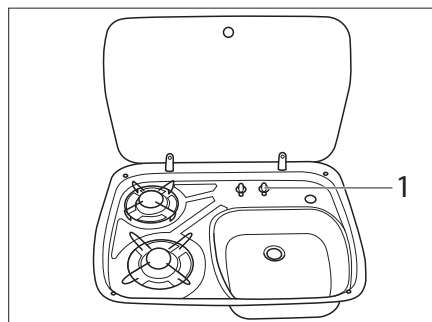

Fig. 66 Operating controls for gas cooker
- Turn the control knob (Fig. 66, 1) on the burner you wish to use to the ignition position (large flame).
- Turn the control knob (Fig. 66, 1) to the 0-position. The flame fades.